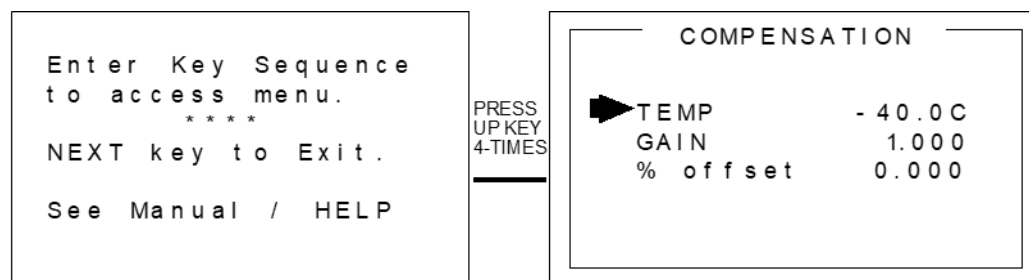

Figure 5-4 – Temperature Compensation Menu
**Temp Compensation** allows user to adjust the gain and offset that is applied to sensors to compensate for temperature drift. Factory supplied sensors are preprogrammed with these values are automatically uploaded to the TXP-T20/T30 from the smart sensor. The default values are 1.000 for gain and 0.000 for offset. With these default values entered there is no extra gain or offset applied to the sensor. This menu is not accessible unless a smart sensor that is equipped with the temperature sensor is installed. From the menu pictured in Figure 5-4 enter the gain and offset that will be applied into the TXP-T20/T30. The gain is applied to the span value. This number is multiplied to the preamp gain value that is set prior to the initial calibration for each of the specified temperatures (-40°C - 60°C in 10° increments). Offset is the needed adjustment to make the sensor read zero at the different temperatures. To prevent accidental data entry a special keystroke sequence, of 4 consecutive UP keys, is required to enter this menu.